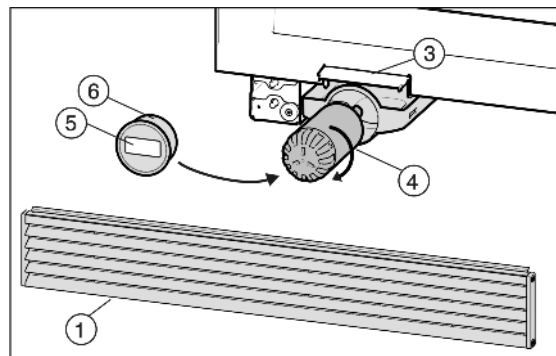

Fig. 6
- ▶ Insert the new filter *Fig. 6 (4)* and turn it about 100° clockwise as far as it will go.
- ▶ Place the cover *Fig. 6 (6)* on the filter.
- ▶ Write the date of the next filter replacement on the supplied adhesive label *Fig. 6 (5)* and affix it to the filter cover *Fig. 6 (6)*.
- ▶ Push in the water filter carriage *Fig. 6 (4)*.
- ▶ Close the filter change flap *Fig. 6 (3)*.
- ▶ Fit the ventilation grid *Fig. 6 (1)* again and push down. It must close flush with the floor.